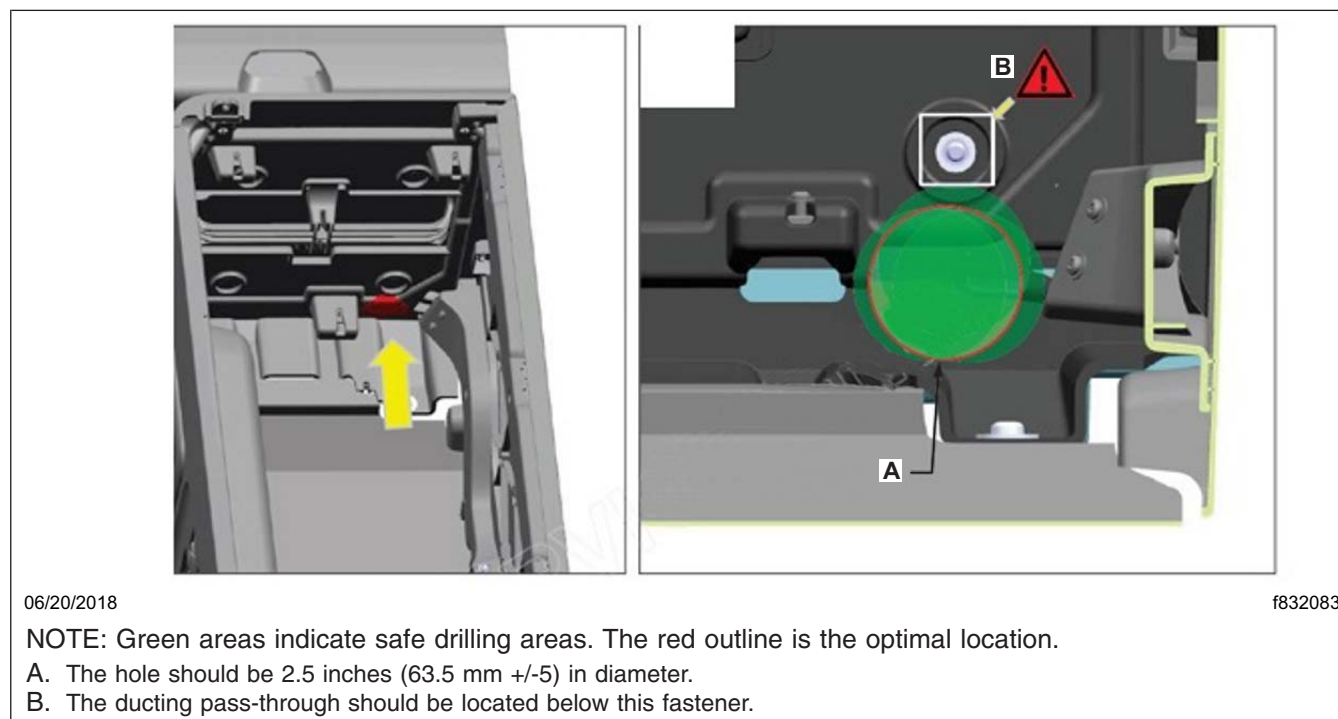

Fig. 5, Locating the Flex Ducting Pass-Through Hole
5. Locate the area shown in red for the flex ducting pass-through hole. See Fig. 5.